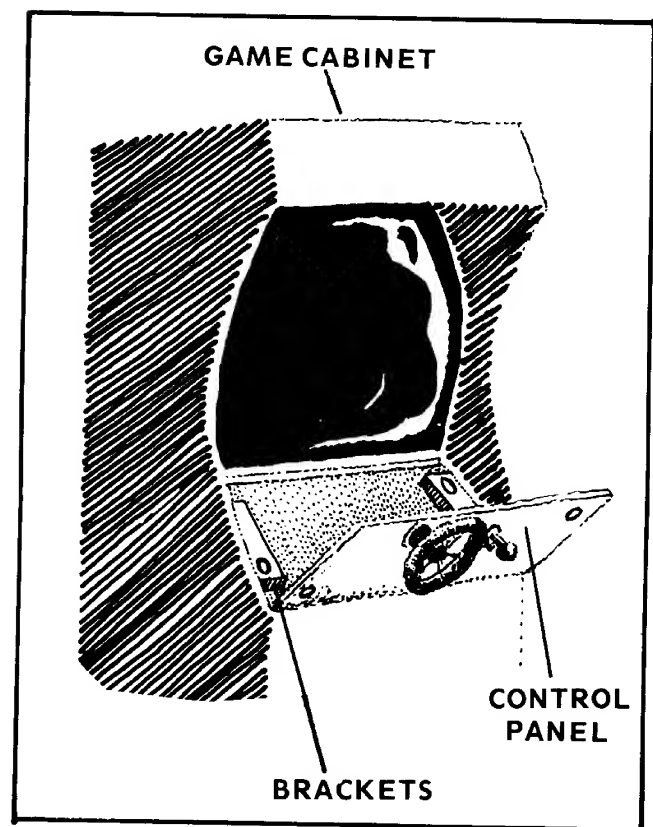

Figure 4-5 Control Panel Removal
- Remove the control panel. Refer to Figure 4-5.